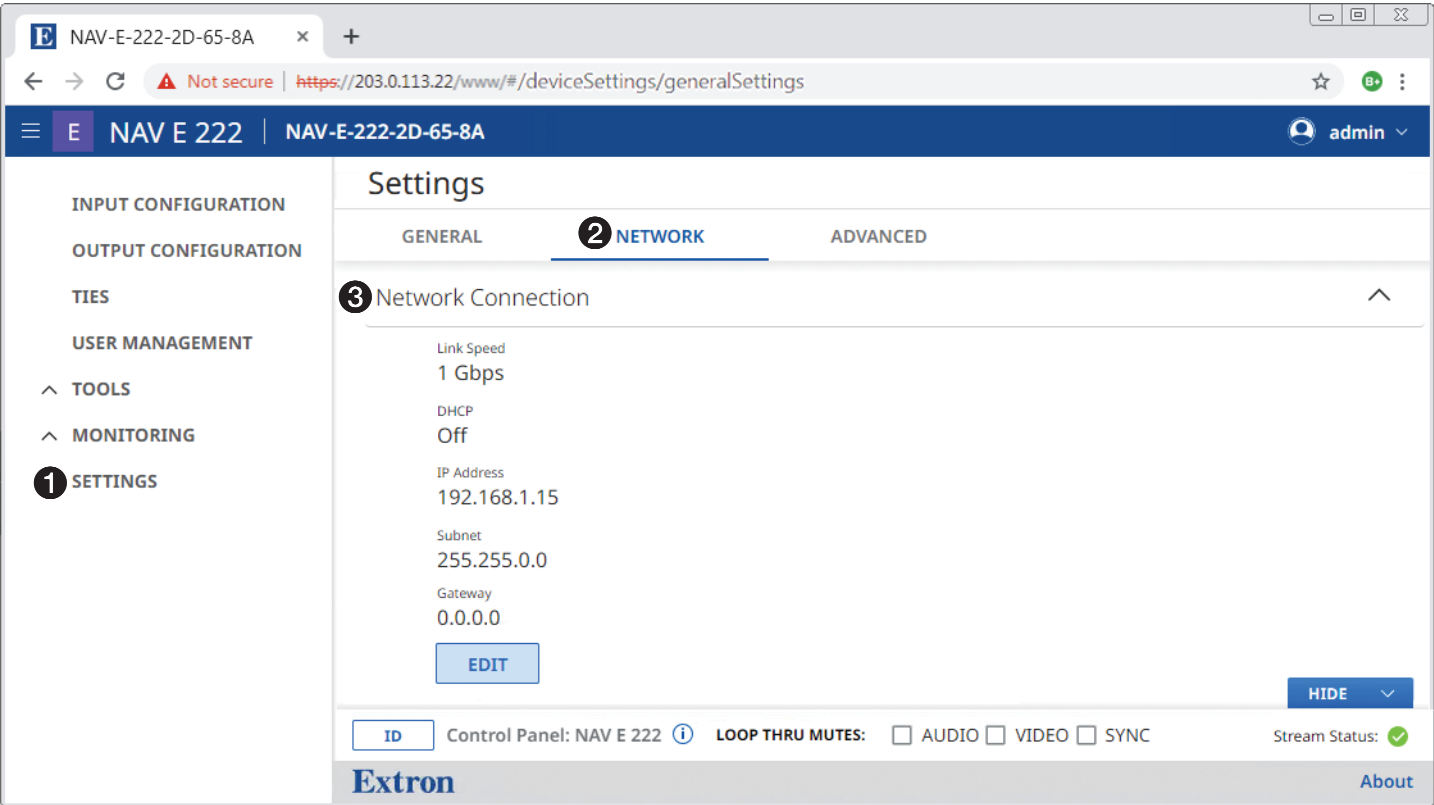
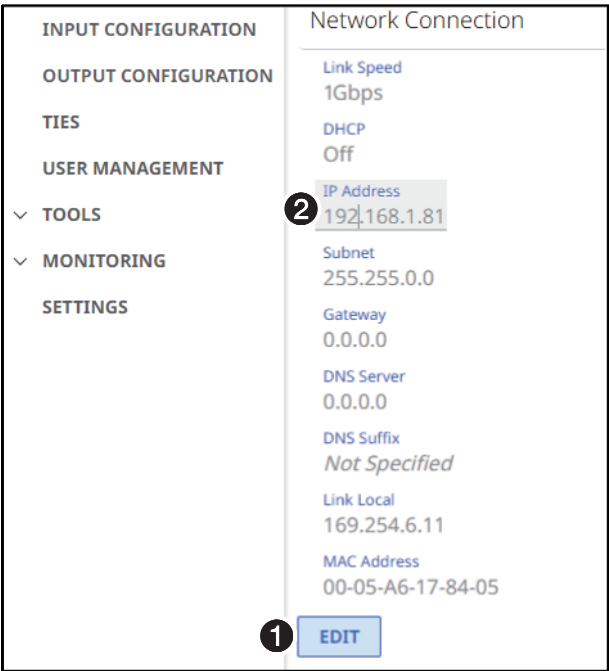

Figure 5. Home Page
Figure 6. Network Connection Pane
6. Complete the **Username** (see figure 4, 1) and **Password** (2) fields and click **SIGN IN** (3). The browser opens to the home page of the embedded web pages (see figure 5 on page 4).
1. On the home page, click **Settings** (see figure 5, ❶) > **Network** (❷) > **Network Connection** (❸). The Network Connection pane opens (see figure 6 at right), showing protected views of the network connection settings.
2. **To change the settings**, click **Edit** (see figure 6, ❶). The Edit button changes to Save.
3. Click in the desired field (❷) and edit it as desired.